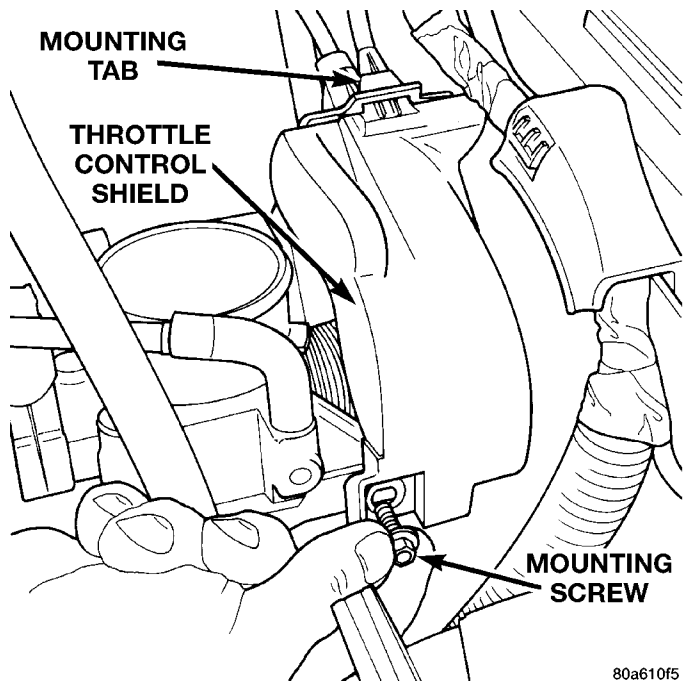

Fig. 38 Throttle Control Shield
- (1) Remove throttle control shield (Fig. 38).
- (6) Install throttle control shield (Fig. 38). Tighten screw to 5.6 N·m (50 in. lbs.).
- (6) Install throttle ontrol shield (Fig. 38). Tighten to 5.6 N·m (50 in. lbs.).